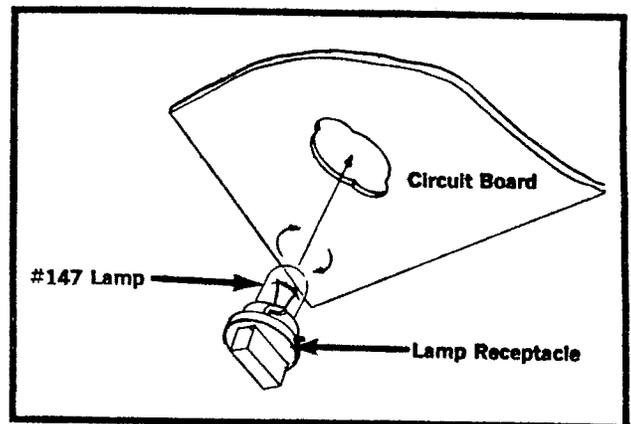

Fig. 9-37. PC board lamp replacement. Turn the lamp assembly counterclockwise to remove and clockwise to install.
1. Twist lamp receptacle counterclockwise to remove it from the PC board. Refer to Fig. 9-37.